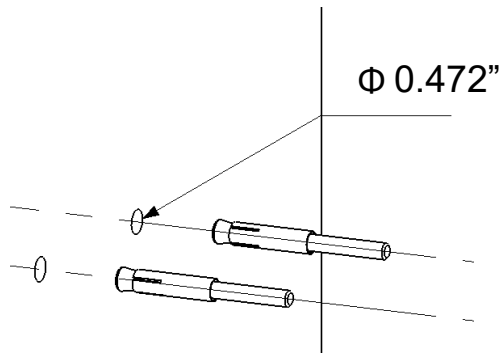

Figure 5.
2. As shown in figure 5 ,drill a $\Phi 12\text{mm}$ ($\Phi 0.472''$) , 55mm (2.165'')depth hole one the wall .